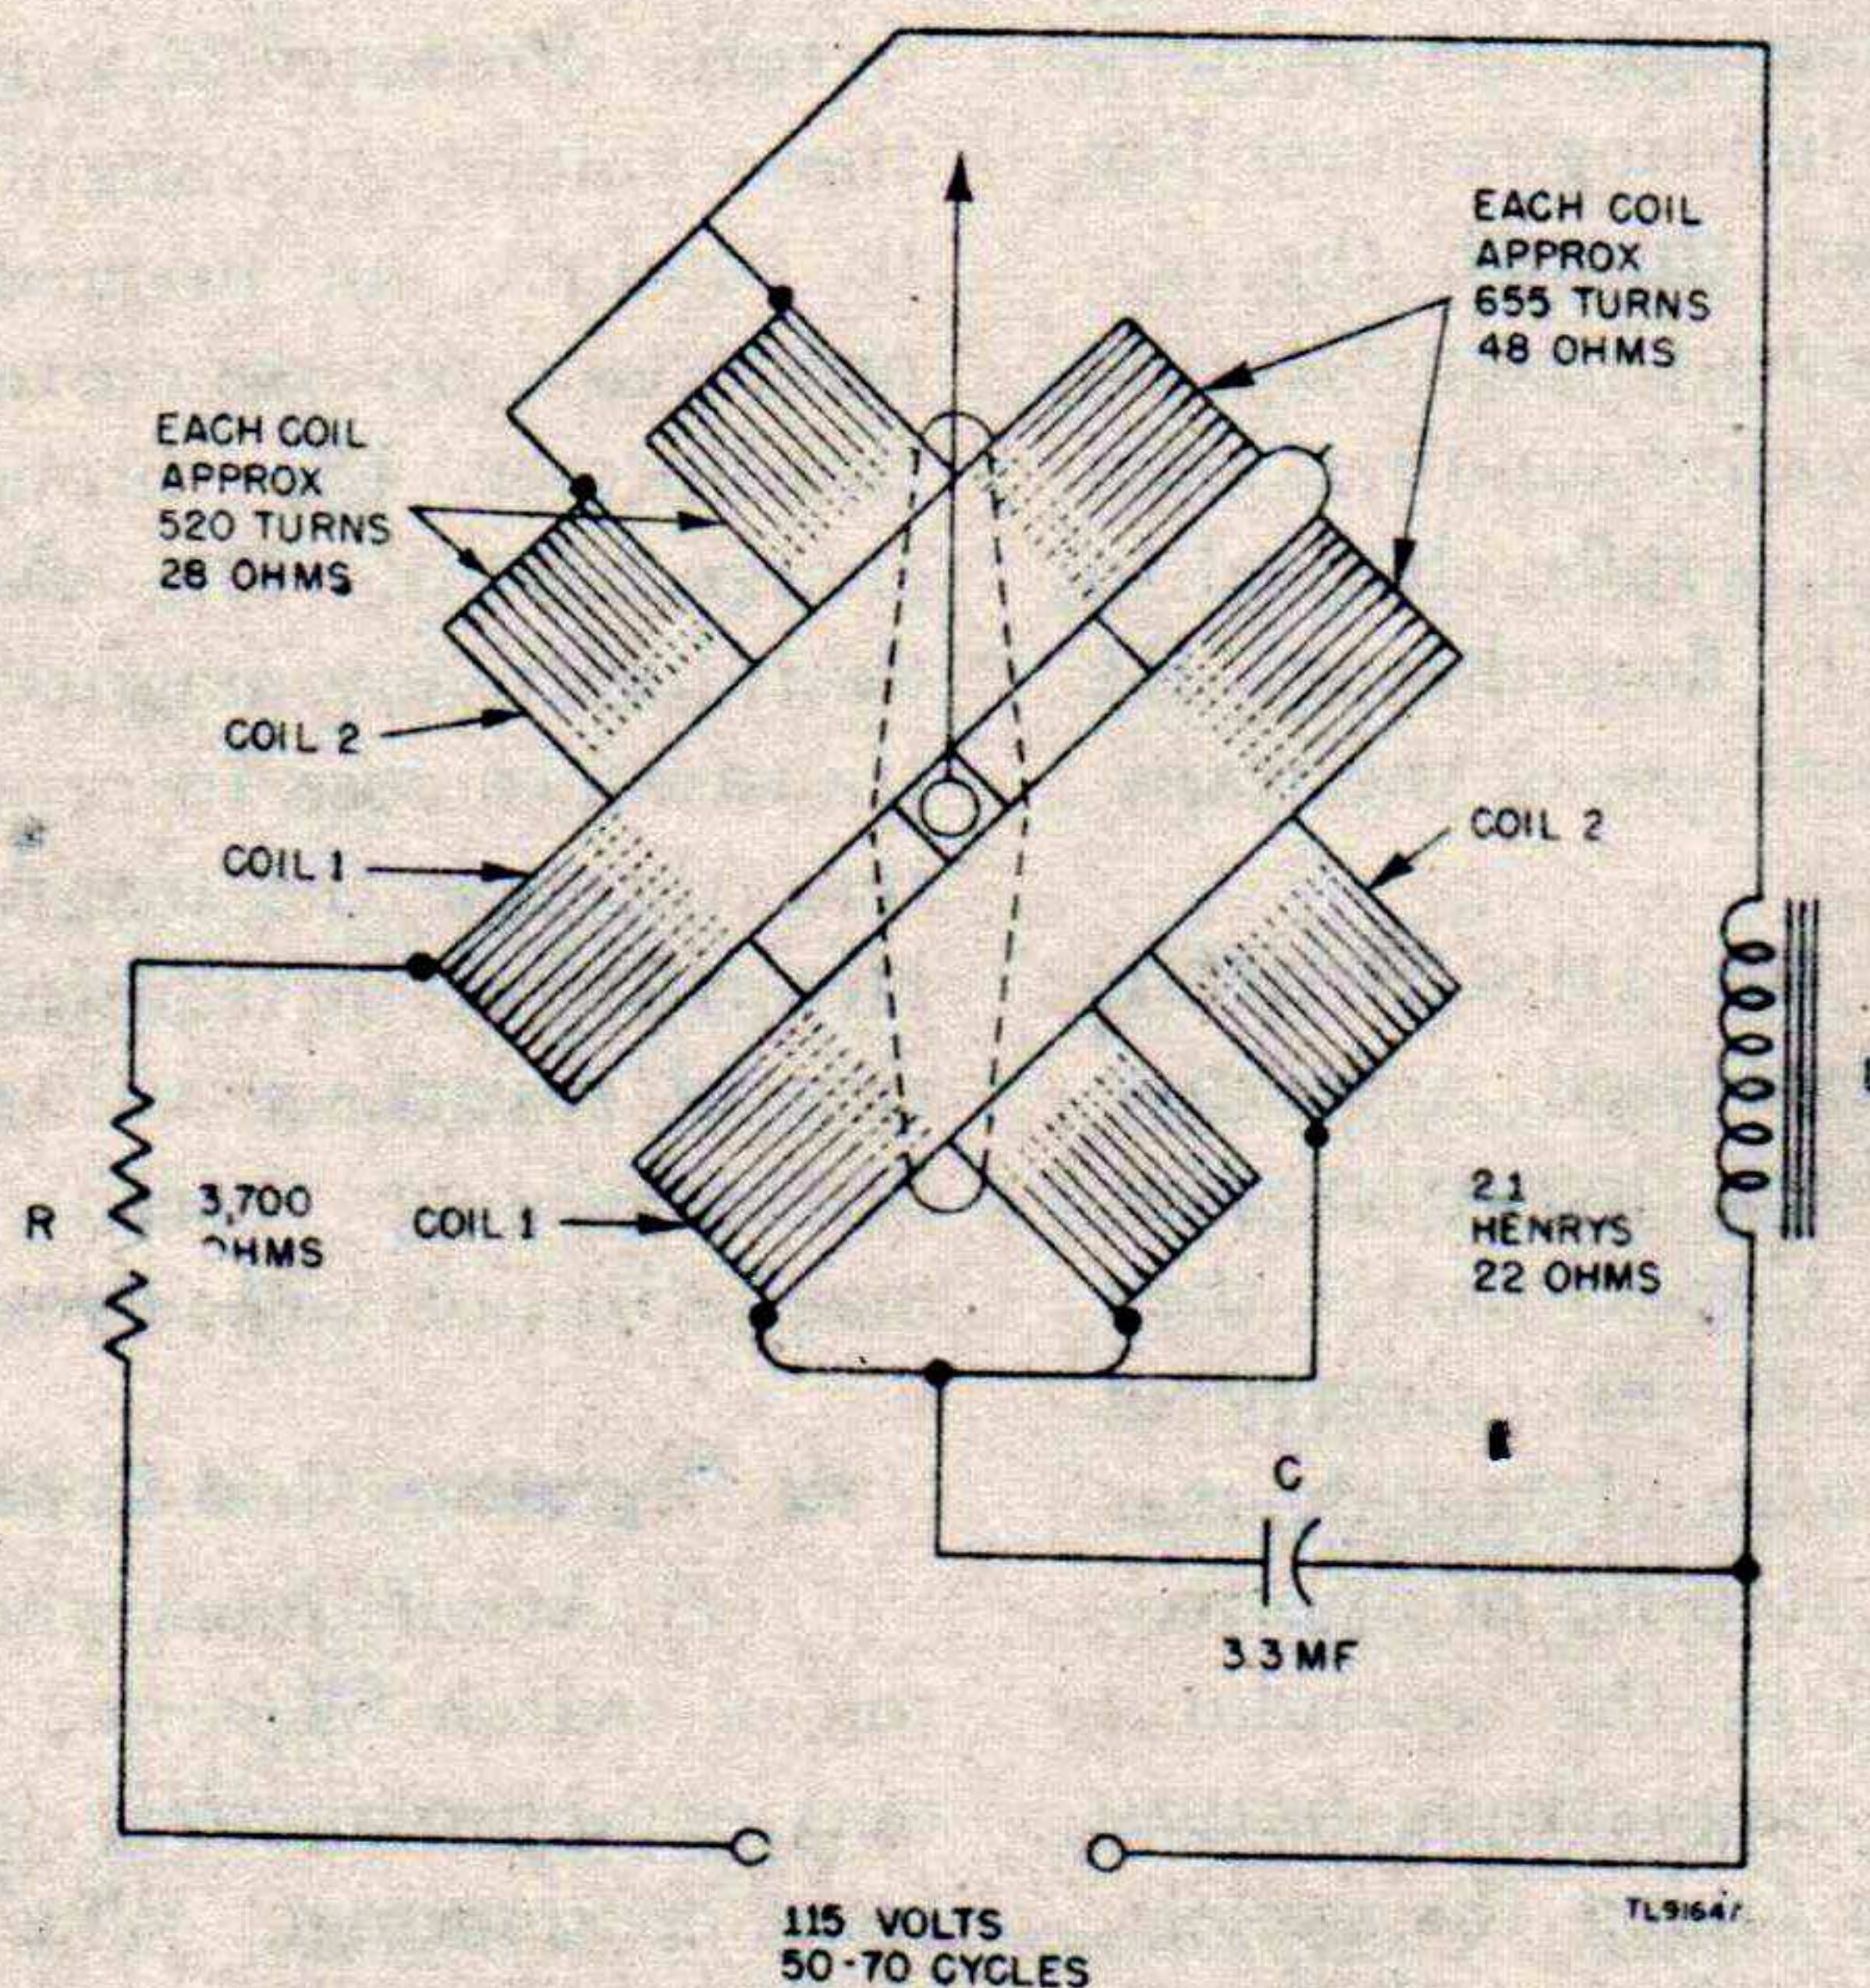

Figure 40. Schematic diagram of frequency meter (Weston model 339).
78. FREQUENCY METER (fig. 40).